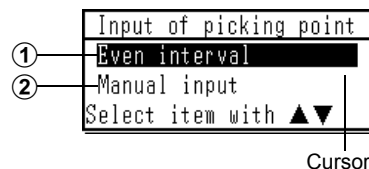

Fig. 13.29 Pick-up Method screen
- 1 Press **5** [Point Pick] key on the Processing Options screen (Fig. 13.1) to display the screen for selecting a data pick-up method (Fig. 13.29). (Press the **RETURN** key to return to the Operator Selection screen.)